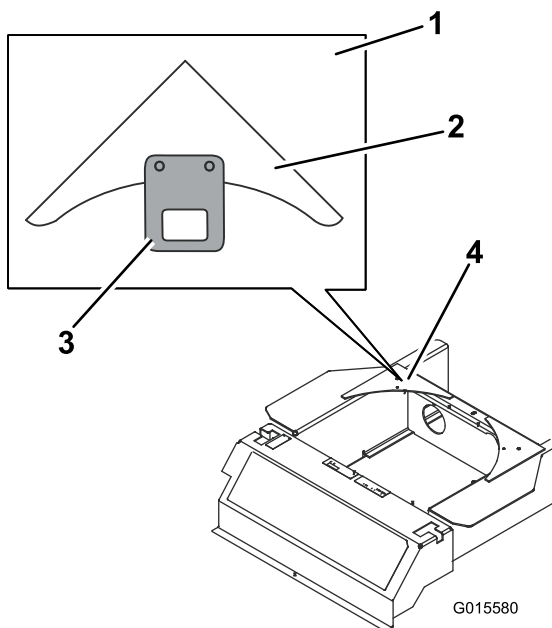

Figure 4
Install the hour meter assembly to the location described in Figure 4 for any machines with a welded frame.
- Using the bracket as a template, mark the two spots to be drilled at the approximate location on the frame shown in Figure 4.
3. Use the self tapping screws to install the bracket onto the machine frame in the orientation shown in Figure 4.